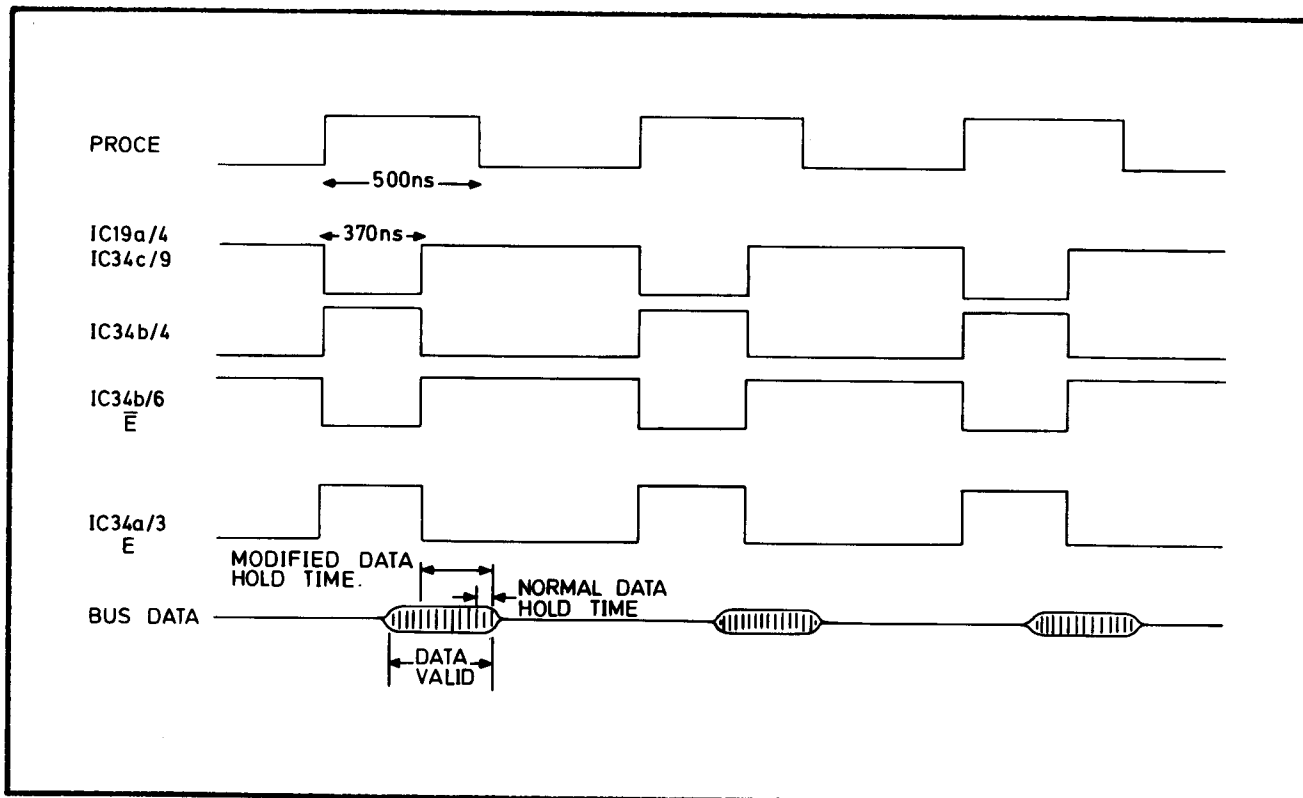

Fig. 6.9 Timing Modification Waveforms - Write Operation
6.5.4.4.7 During microprocessor write operations, IC34c/10 is held at logic '1', and the level at IC34b/4 is governed by the \bar{Q} output of the monostable circuit, IC19a. The operation of the circuit is illustrated in Fig. 6.9. It can be seen that the active (positive-going) edge of the \bar{E} waveform now occurs before the active (negative-going) edge of PROCE, and the data hold-time, for which valid data can be read from the bus, is increased.